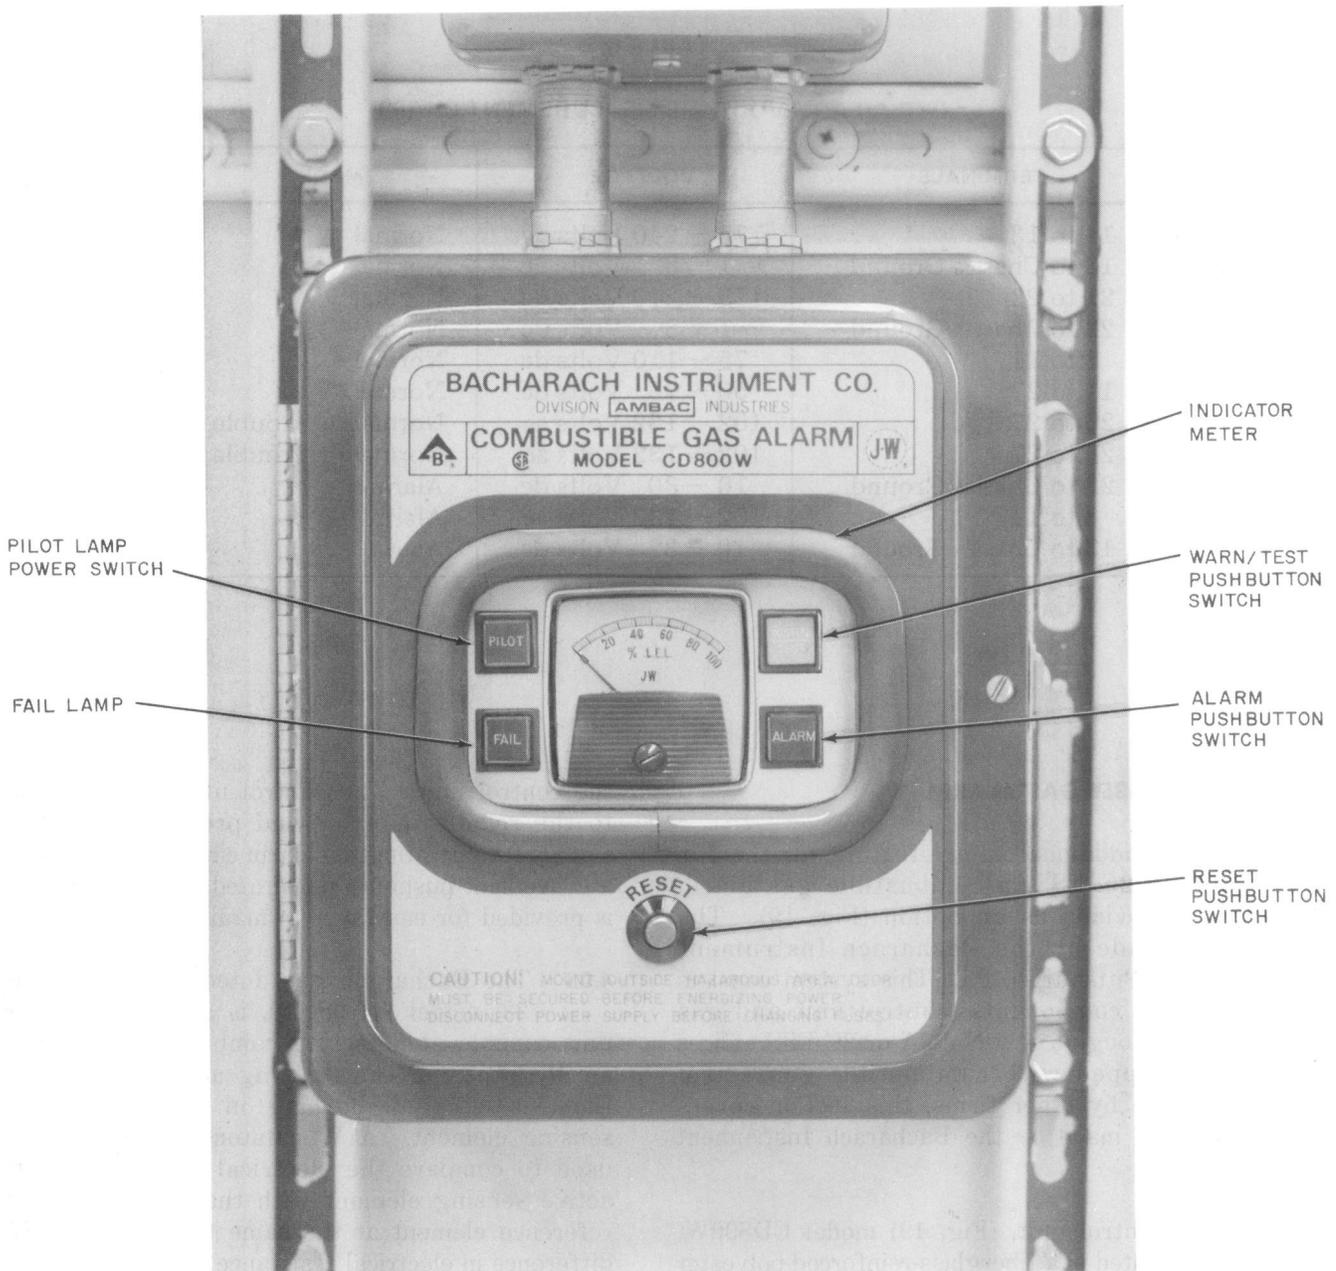

Fig. 19—Bacharach Combustible Gas Alarm (Model CD800W) Control Unit
4.01 As an additional safety feature for the No. 2A or 2C ESS, a combustible gas alarm system is provided as an option (Fig. 19). The system is made by the Bacharach Instrument Company, of Pittsburgh, Pa. This system consists of two major components, control unit and gas detector. Although a few No. 2A or 2C ESS offices may be equipped with combustible gas alarm systems made by other firms, this section covers only that unit made by the Bacharach Instrument Company.
4.02 The control unit, (Fig. 19) model CD800W, is mounted in a fiberglass-reinforced polyester case, 11-1/2 inches in height, 5 inches deep, and 9-1/4 inches wide. The control unit is located on the wall adjacent to the rest room, and is electrically connected to existing building alarms. The control unit contains a plug-in circuit board, three control relays, and a front panel containing a pushbutton power switch (PILOT), ALARM, RESET, and WARN/TEST pushbutton switch, FAIL indicator lamp, and a meter indicating gas-air mixture in percentage of lower explosive limit. Refer to Fig. 20 and 21 for a detailed component layout of